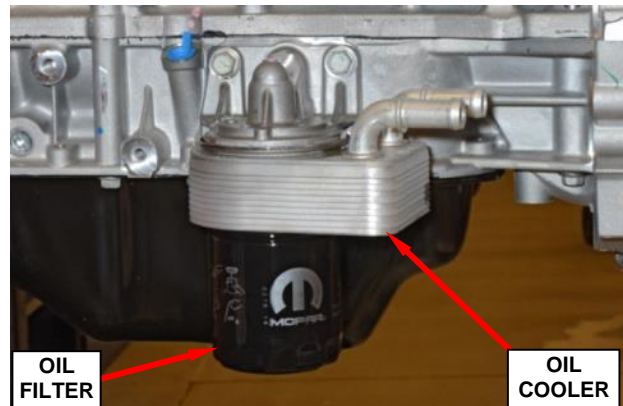

Figure 40 – Engine Oil Cooler
- a. Remove the engine oil filter (Figure 40).